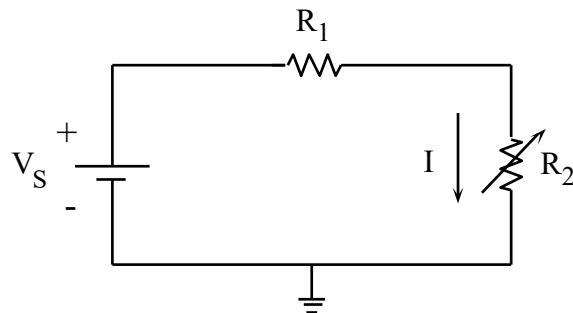

Figure 1.3 Simple voltage divider circuit.
- In the circuit of Fig. 1.3 R_1 is fixed. Derive the condition under which maximum power will be delivered to R_2 . Why?